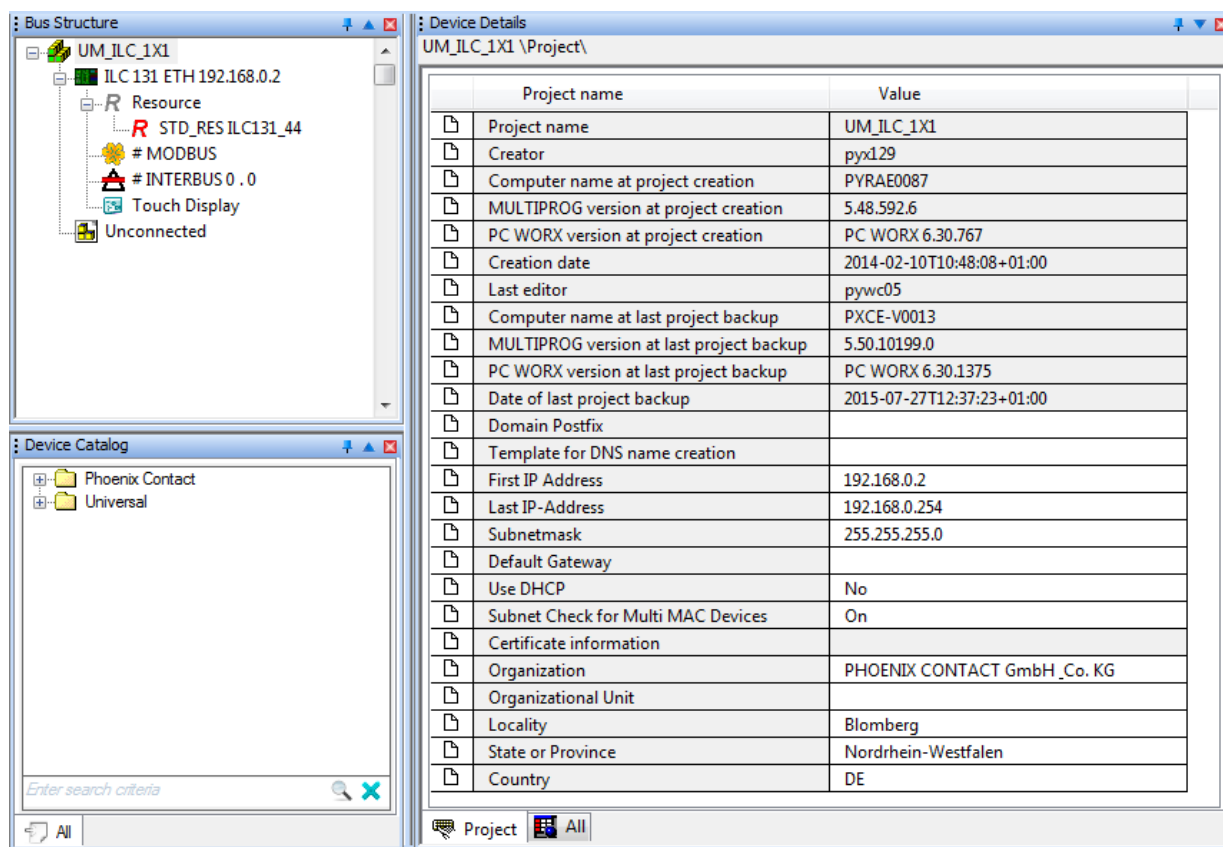

Figure 3-1 Project information after creating a new project
- Save the project using an appropriate name (in the example in Figure 3-1: “UM_ILC_1X1”).
If your network does not permit the use of the IP address used in the example project, adjust the settings in the project information accordingly (see Figure 3-1 on page 44).
If any modifications are made to the project information (see Figure 3-1) that affect the IP settings for the controller, a warning is displayed. However, the modification is not implemented automatically.